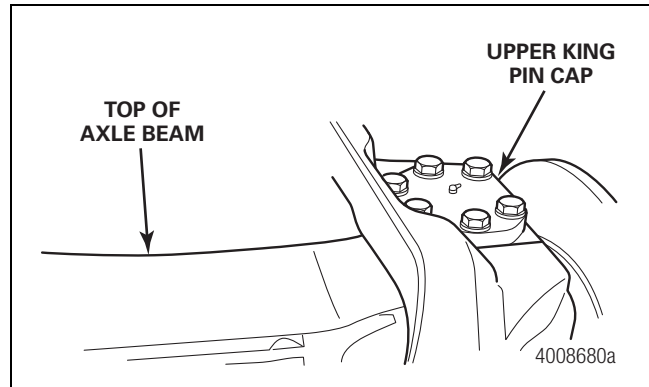

Figure 10.16
4. Remove the king pin cap bolts and washers. Figure 10.16.